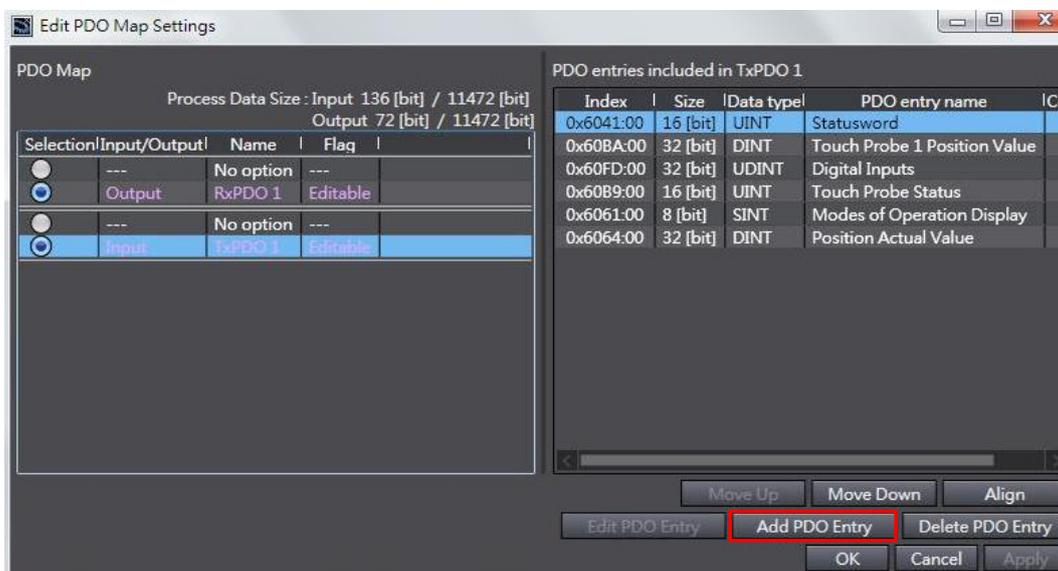

Fig. 5-43
- (3) Select TxPDO1 and press the button of “Add PDO Entry” in the window of “Edit PDO Map Settings”. Add objects given in Table 5-1 into TxPDO1, as shown in Fig. 5-43.